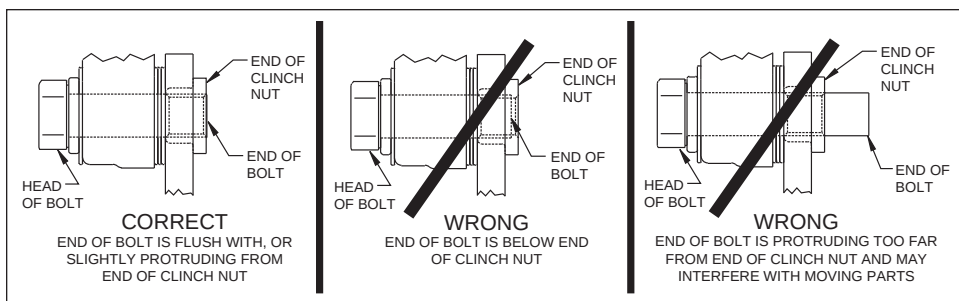

Figure 5. Clinch Nut Engagement Diagram
**Assembly Instructions** (numbers in parenthesis refer to the parts list, and Figure 1 on the preceding pages): **CAUTION:** All mounting bolts must fully engage clinch nuts. Be sure to check that all bolts are either flush or protruding through flanged side of clinch nut after shimming, Figure 5.
•**NOTE:** Please reference the caution statement at the beginning of the assembly instructions. Mount the caliper (4) onto the caliper mounting bracket (1) using bolts (6) and washers (5), as shown in Figure 1. Initially place two .035" thick shims (7) on each bolt between the caliper and the bracket, Photo 5. Temporarily tighten the mounting bolts and view the rotor (3) through the top opening of the caliper. The rotor should be centered in the caliper, Photo 6. If not, adjust by adding or subtracting shims between the bracket and the caliper. Always use the same amount of shims on each of the two mounting bolts. **NOTE:** The end of each bolt must be flush with or slightly protruding from the head of the clinch nut, as shown in Figure 5. If necessary place spare shims between washer (5) and caliper mounting ear to achieve the proper clinch nut engagement. Once the caliper alignment and clinch nut engagement are correct, remove the bolts one at a time, apply red Loctite® 271 to bolt threads, and torque to 40 ft-lb.